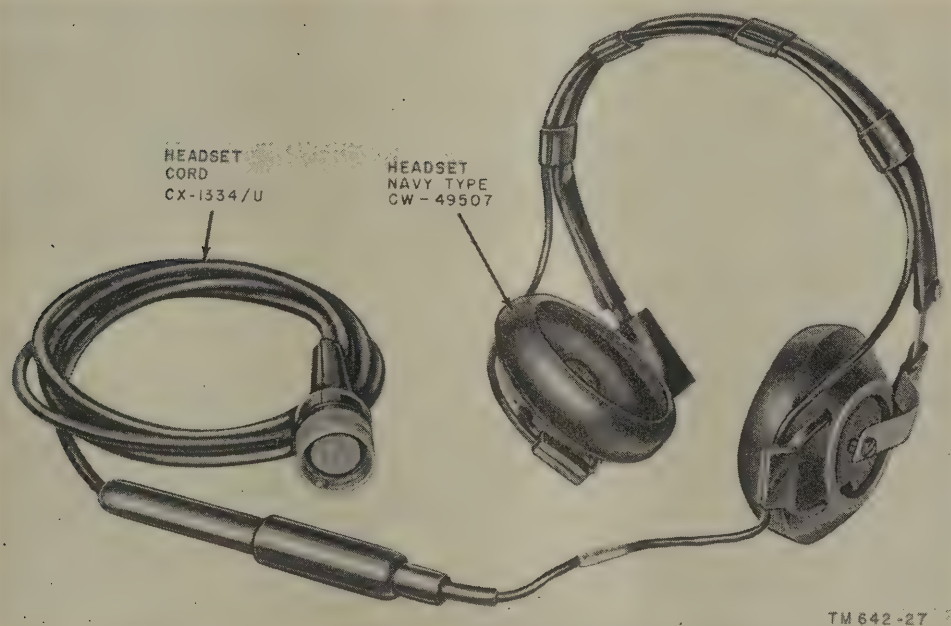

Figure 17. Headset Navy Type CW-49507 and Headset Cord CX-1334/U.
g. *Headset Navy Type CW-49507 and Headset Cord CX-1334/U.* Headset Navy Type CW-49507 (fig. 17) consists of two series-connected 300-ohm receivers. A 14-inch cord is connected to the receivers and is terminated in Plug PL-54. The plug will mate with jack J-26, on one end of Headset Cord CX-1334/U. Headset Cord CX-1334/U is 5 feet long. It is terminated in a 10-pin audio connector, and serves to connect the headset to the audio receptacles on the